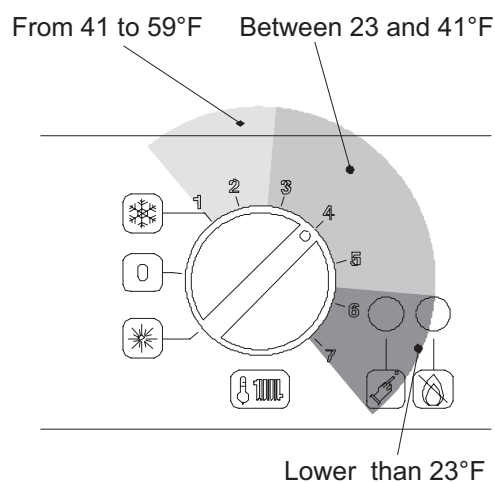

Figure 5.4
- In order to achieve optimal settings for economy and comfort, we recommend adjusting the operating temperature of the central heating water according to the outside temperature, positioning the knob as in figure 5.4